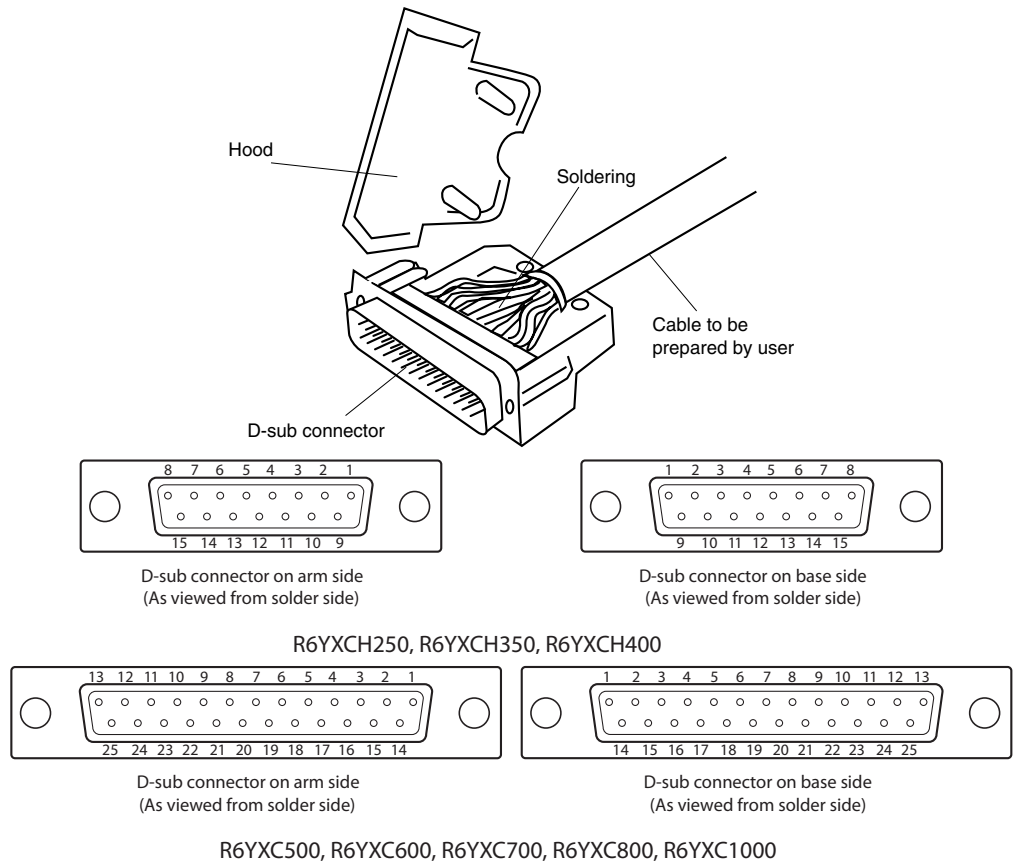

Fig. 3-9
- 4) As shown in Fig. 3-9, solder the user cable wires to the D-sub connector (supplied with the robot). Reattach the hood to the D-sub connector after soldering, then plug it into the user wiring connector. The connector pinouts as viewed from the solder side are shown below.